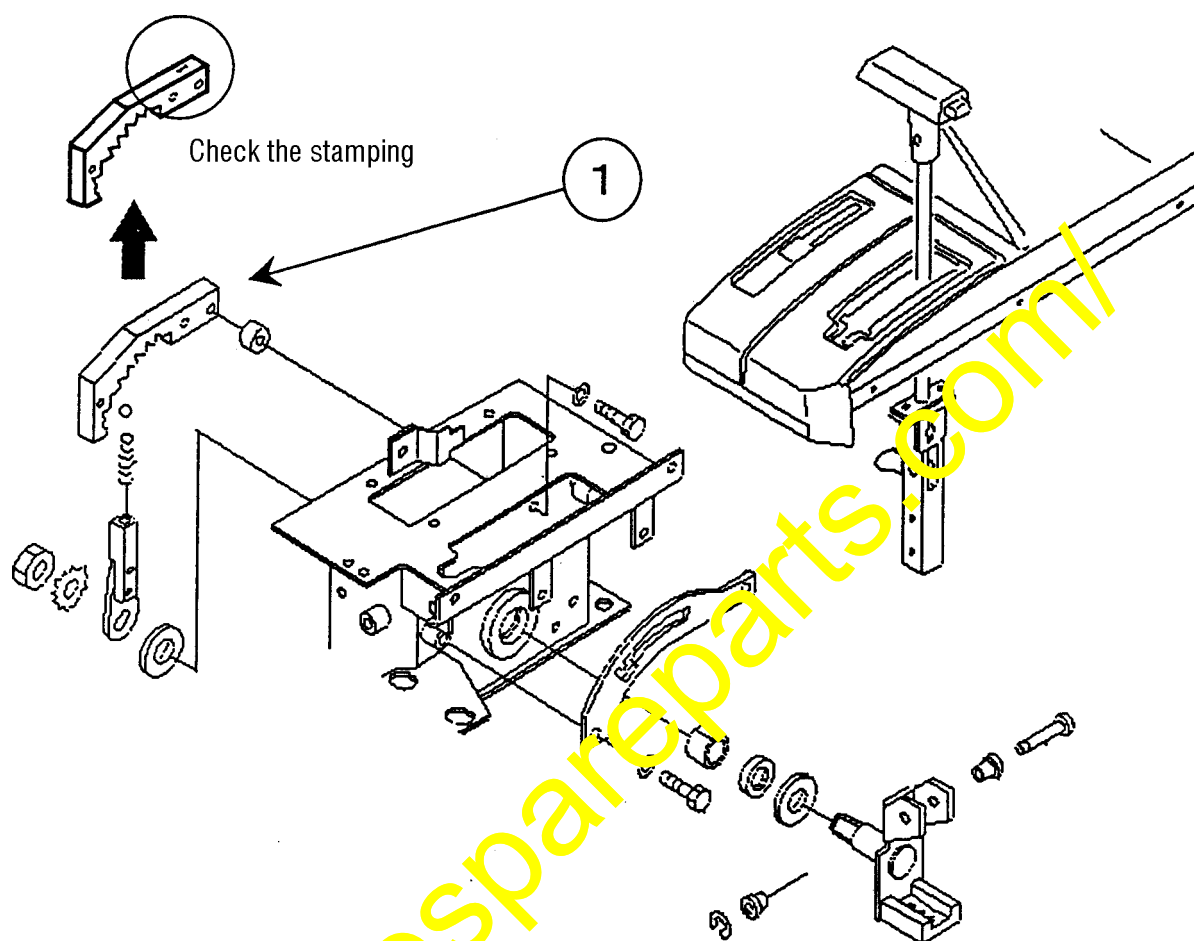

Fig. 1 Modification procedure (Replacement of parts)
- 1) Remove the part ① and install the improved part. (Make sure that number of "1" is stamped on the improved part. Refer to Fig. 1.)